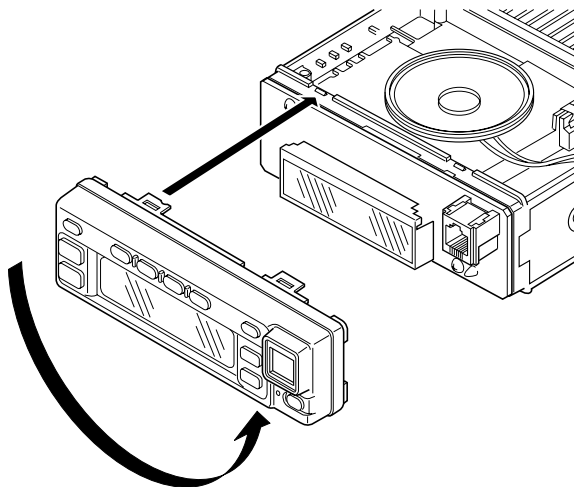

Fig. 8
6. Rotate the control panel 180 degrees and mount it on the transceiver. Refit the two halves of the case to complete installation. (Fig. 8)